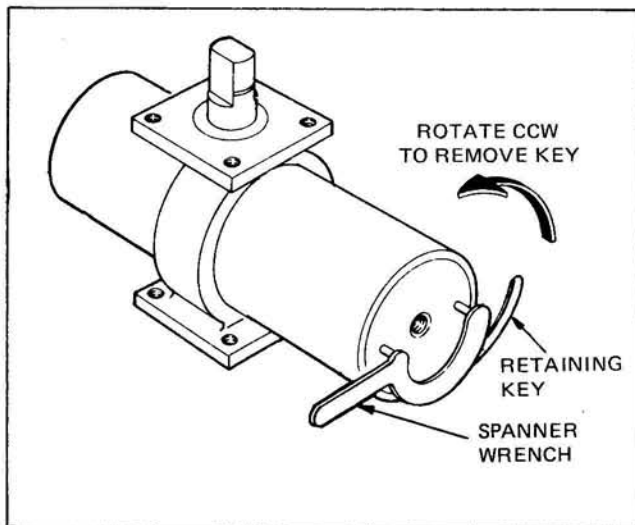

Figure 3. Removing End Cap
b. With spanner wrench in holes in end cap (1) turn in a counterclockwise direction so that retaining key (2) feeds out the slot in the body. (See Figure 3.) Lift tang of retaining key from hole in end cap. Repeat for opposite end of actuator.